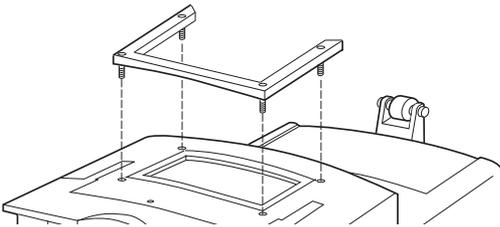

Fig. 5. Installing the U-bracket with screws.
4. Place the U-bracket on the optical lid as shown in Figure 5, and secure it using the hex driver and the 4 larger hex screws provided.